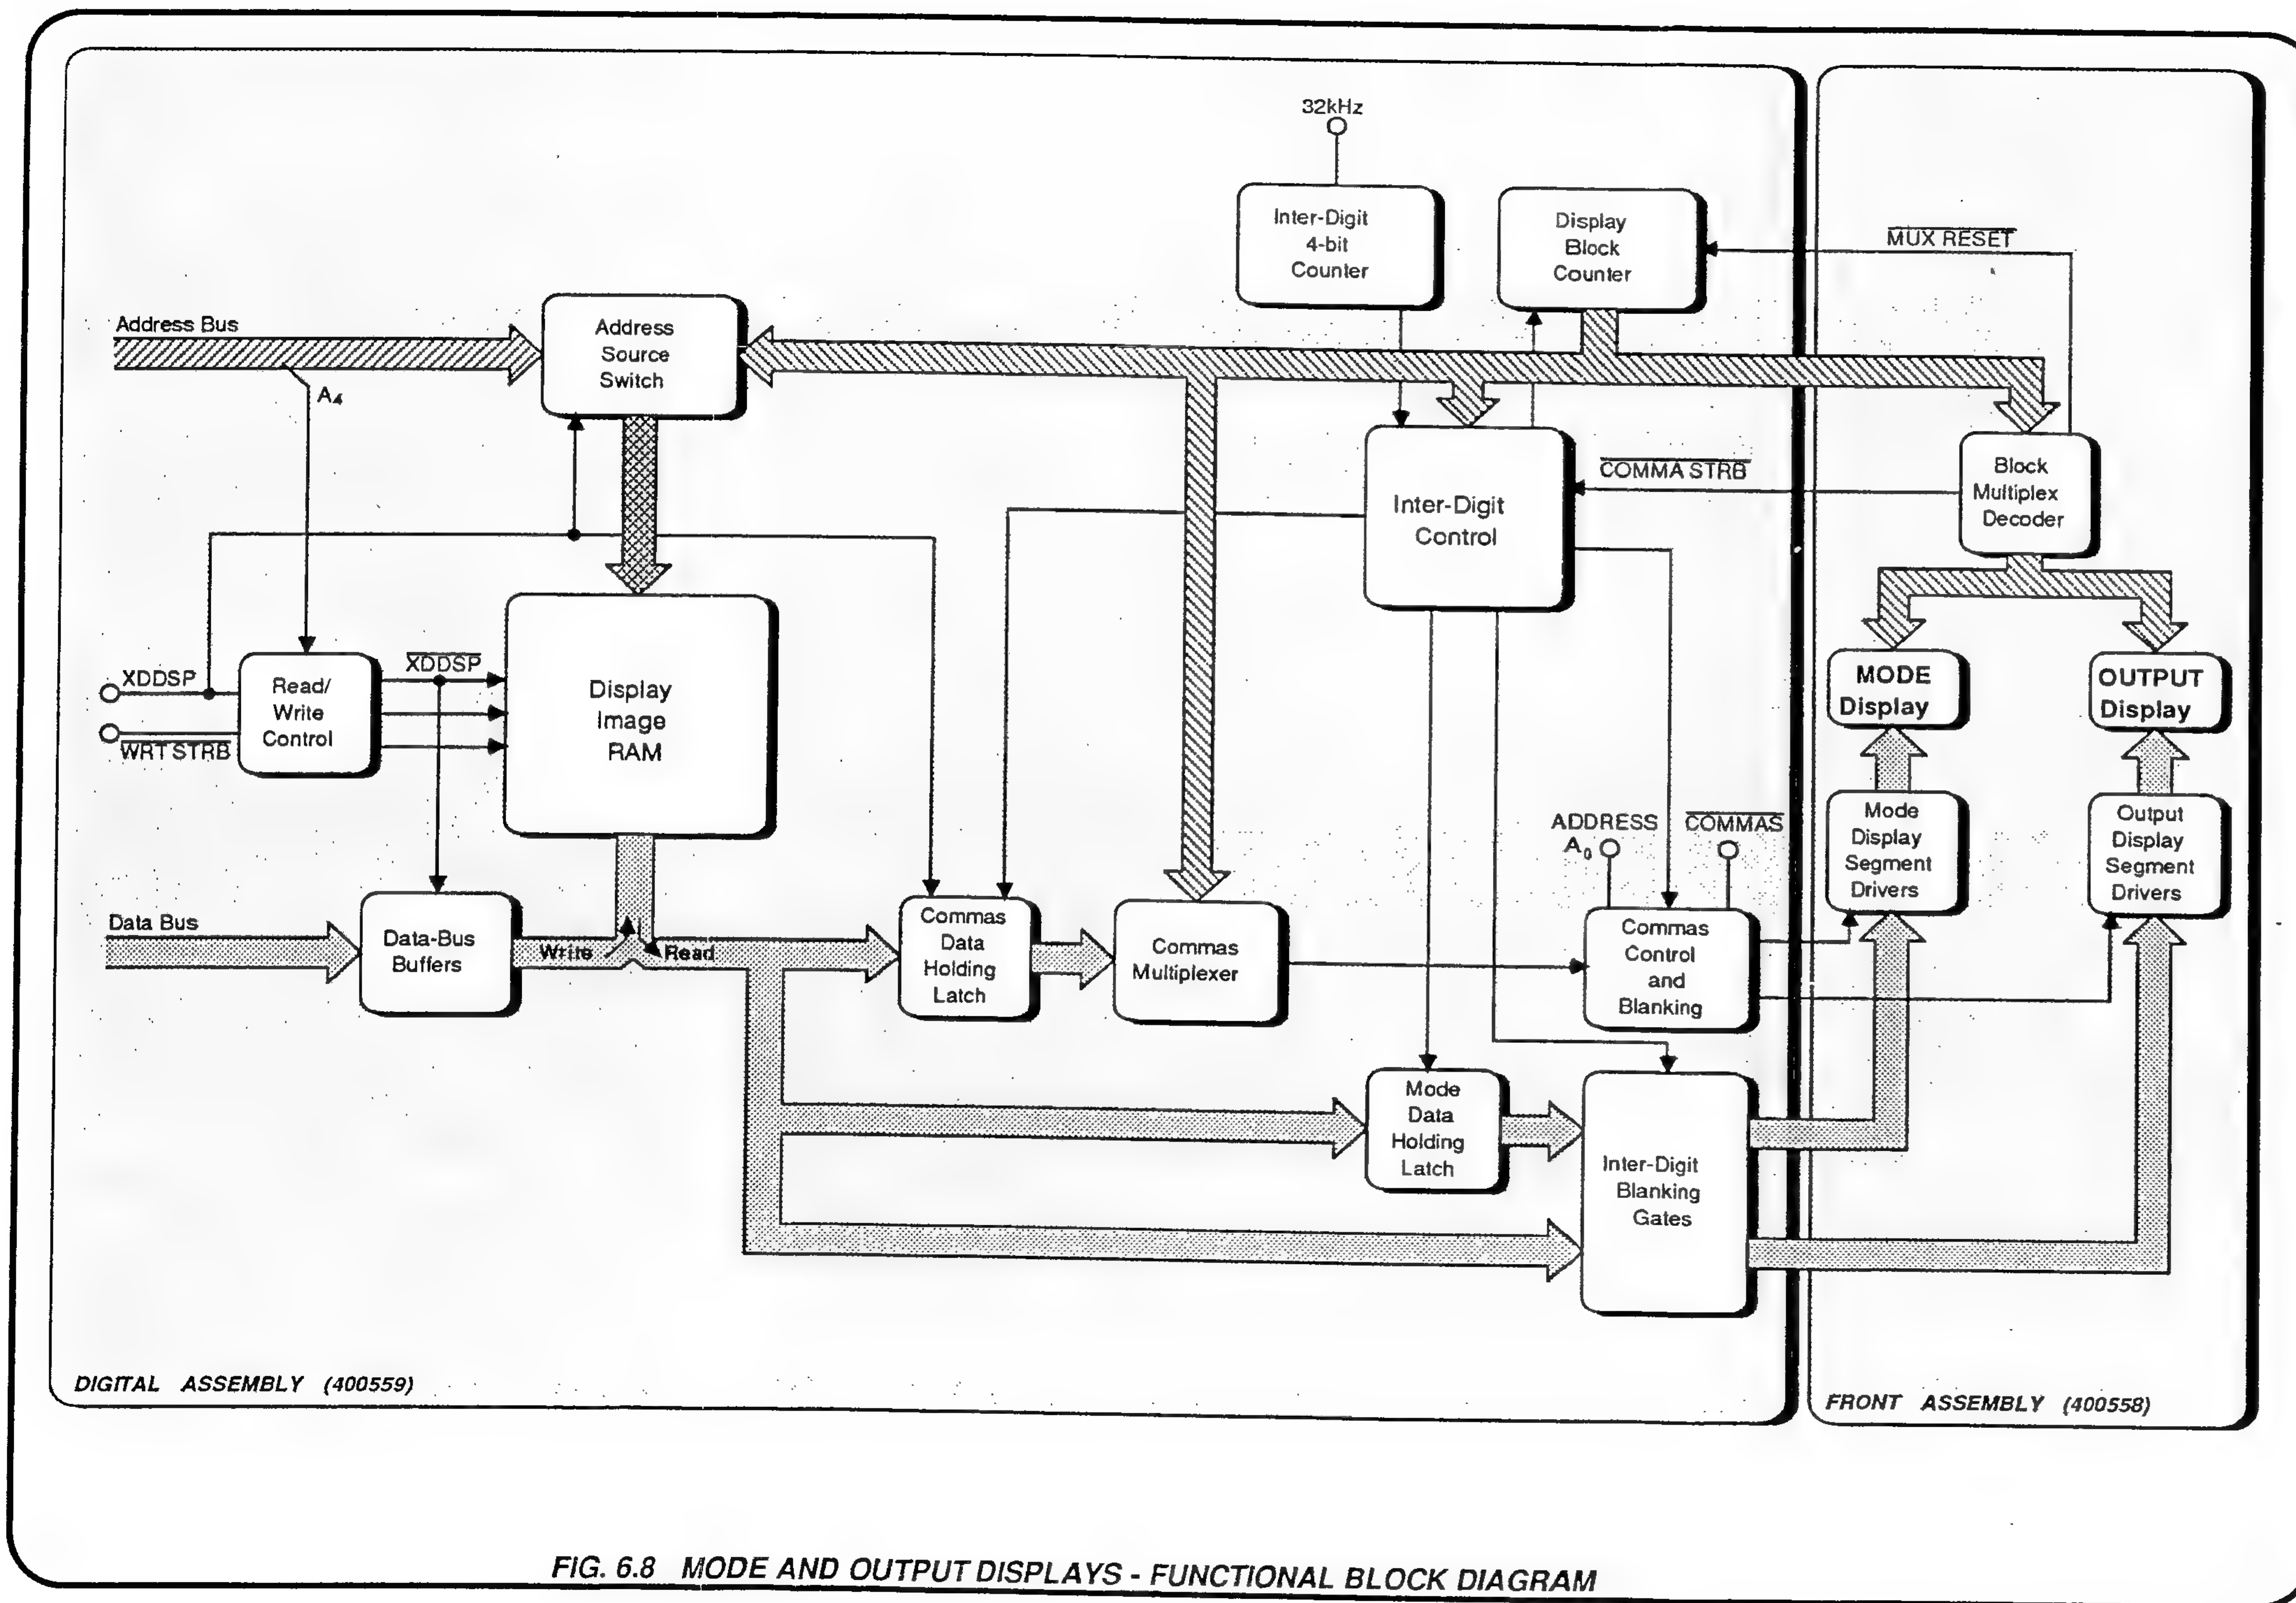

FIG. 6.8 MODE AND OUTPUT DISPLAYS - FUNCTIONAL BLOCK DIAGRAM
The two plasma displays, the block multiplex decoder, segment drivers and high voltage circuits are located on the Front assembly (400558). The block diagram of *Fig.6.8* shows the arrangement and main interconnections of the display circuitry.
6.3.1 GENERAL (*Fig.6.8*)